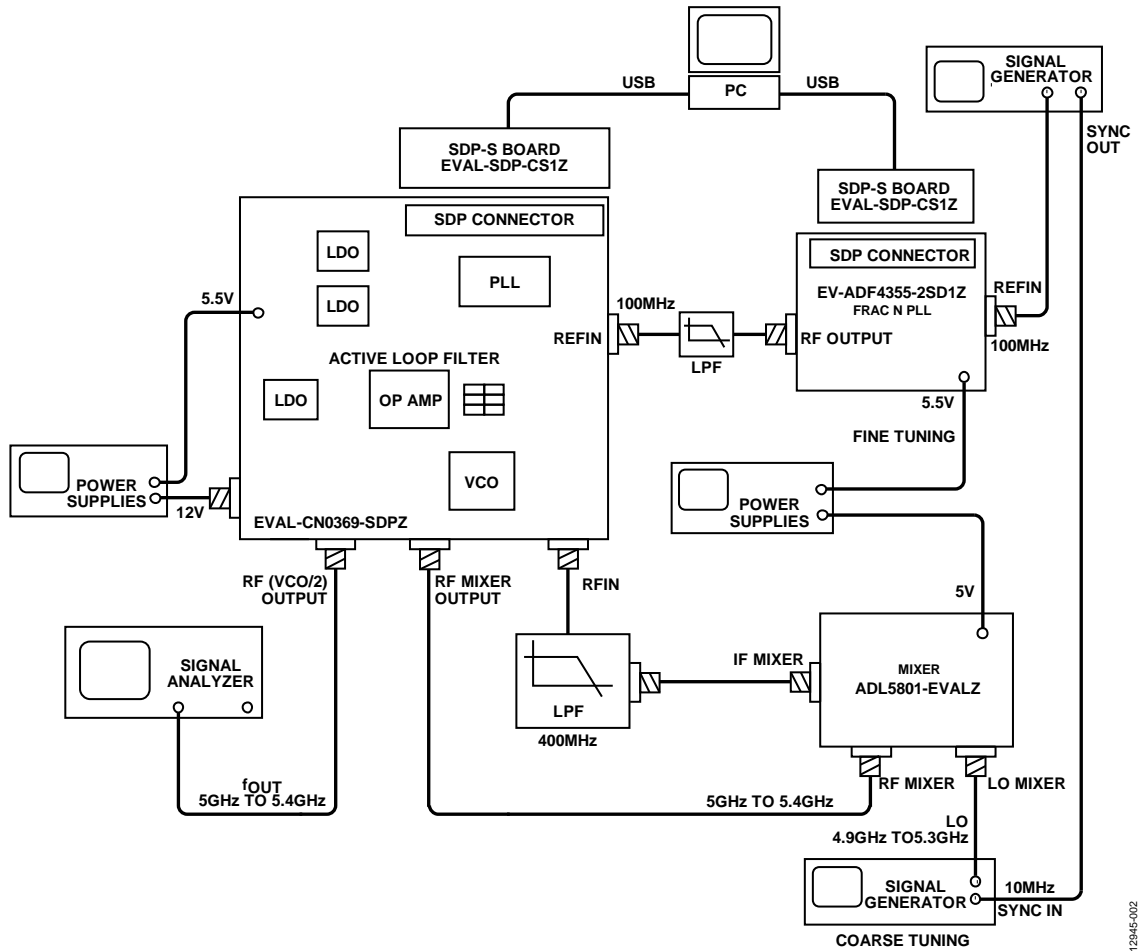

Figure 2. Translation Loop Evaluation Setup using the EVAL-CN0369SDPZ
The translation loop synthesizer (also known as an offset loop) as the name implies, translates the lower 100 MHz reference frequency of the ADF4002 phase locked loop (PLL) up to a higher frequency range of 5.0 GHz to 5.4 GHz, as determined by the frequency of the local oscillator (LO). Figure 2 shows a translation loop evaluation setup using the EVAL-CN0369SDPZ.